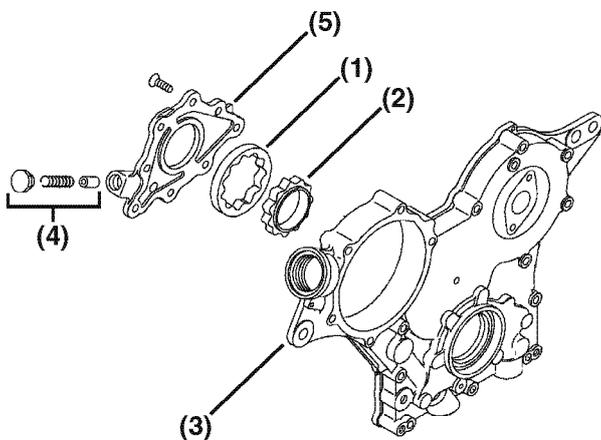

Figure 9-11
1. Lubricate the outer rotor (**Figure 9-11, (1)**), inner rotor (**Figure 9-11, (2)**) and pump bore in the gear case cover (**Figure 9-11, (3)**) with clean engine oil.
4. Reinstall the oil pressure regulator valve (**Figure 9-11, (4)**) into the oil pump cover (**Figure 9-11, (5)**). Apply LOCTITE® 242 (red) to the valve plug, following the manufacturer's instructions.
5. Reinstall the oil pump cover (**Figure 9-11, (5)**). Apply LOCTITE 290 (green) or LOCTITE 262 (red) to the oil pump cover screws. Tighten the pump cover screws to 52 - 70 in·lb (5.9 - 7.9 N·m, 0.6 - 7.9 kgf·m).